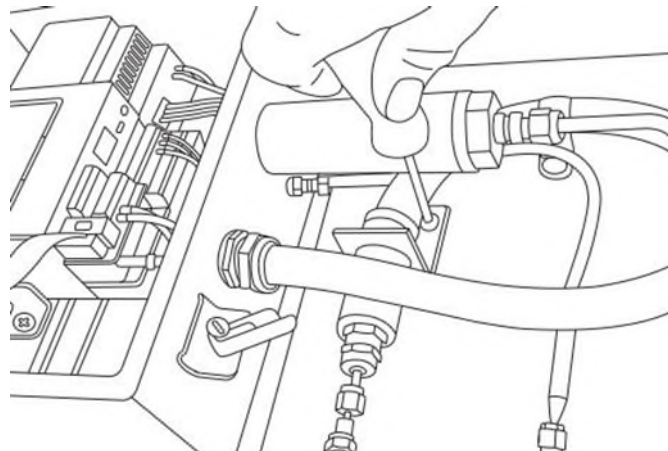

Figure 86. Remove conduit bracket
- Remove the conduit bracket screws (x2) with a 5/32 in. Hex driver. Refer to Figure 86.